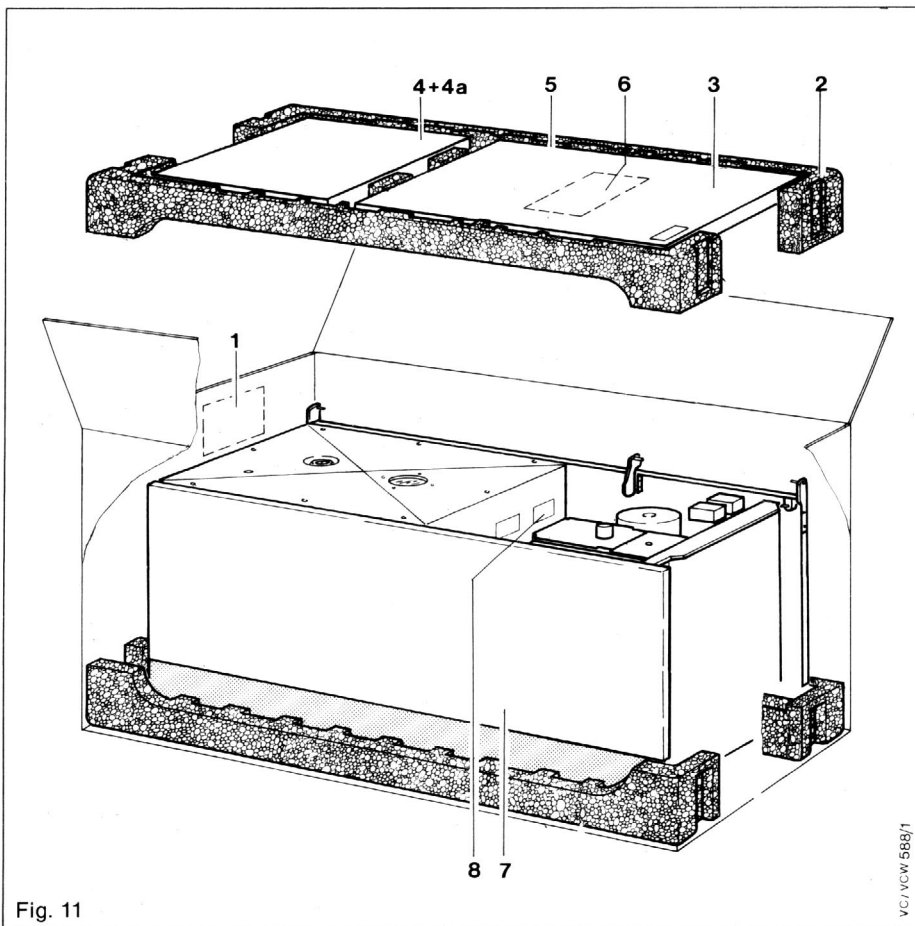

Fig. 11
the cased boiler (item 1, fig 11).